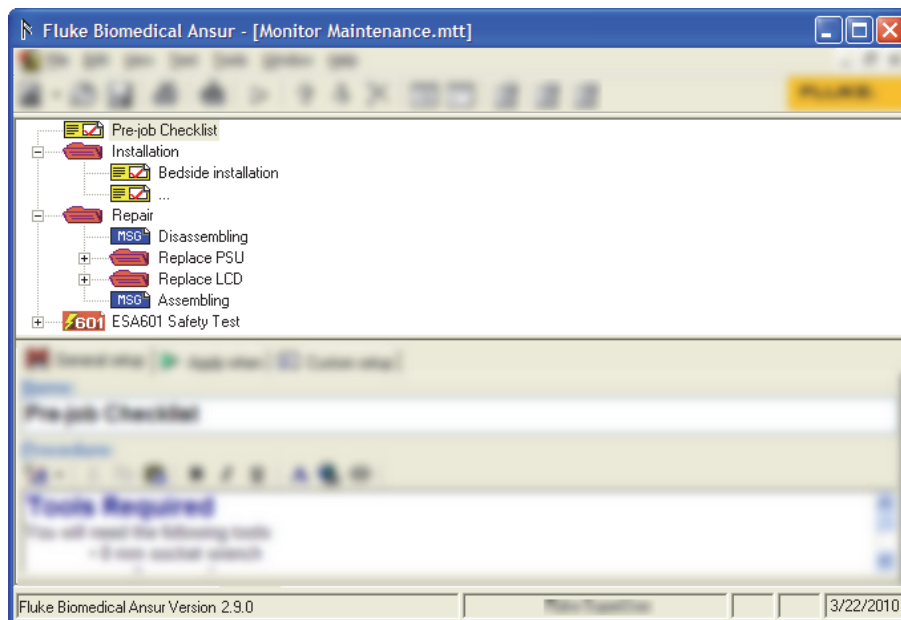
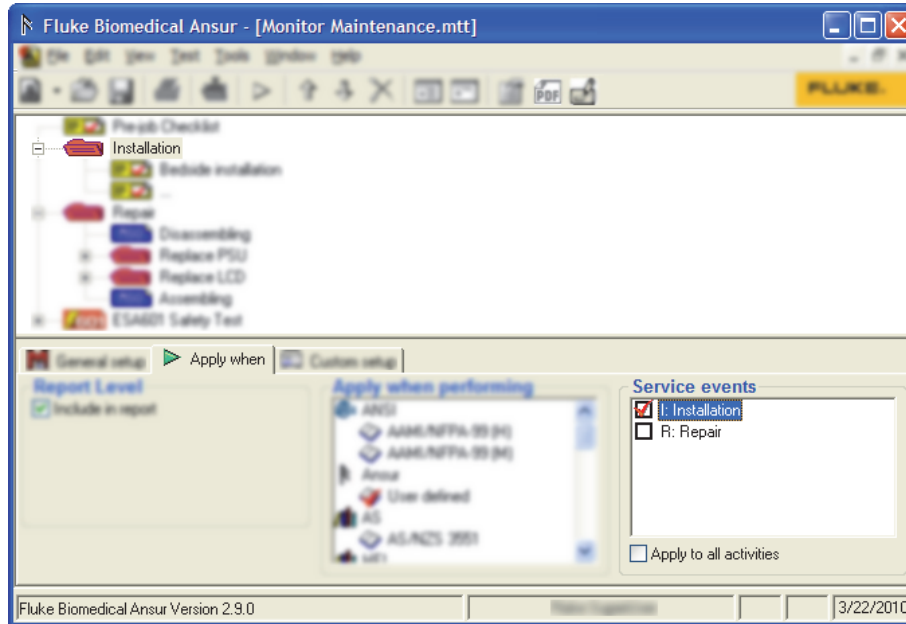

Figure 3-61. Sample Template for Monitor Maintenance
Figure 3-66. Assigning Service Events
1. Create a test template and add visual tests and safety tests to meet the needs for service procedures and safety testing. Figure 3-61 shows an example template with the Ansur explorer hidden.
10. To assign tests to a service event, click the test element named **Installation** in the template window shown in Figure 3-61. Then click the **Apply when** tab in the test element setup frame. The service events just created are listed in the frame named **Service events** as shown in Figure 3-66.